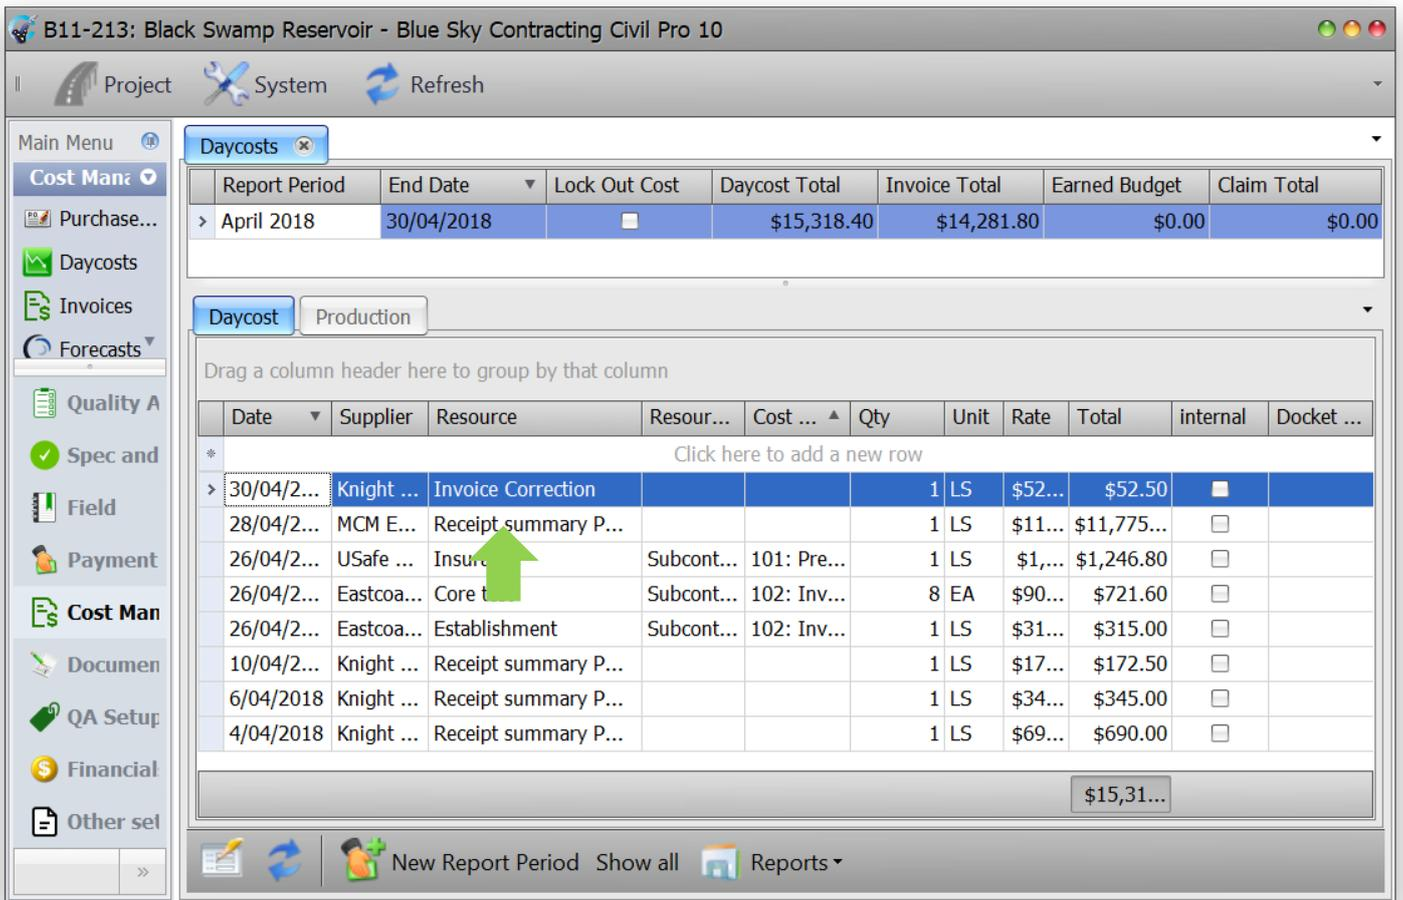

Figure 80 Updated Daycosts Register including the invoice correction.
8. If you now go back into your Daycosts Register you will see the Invoice correction we just did in the details screen (Figure 80).